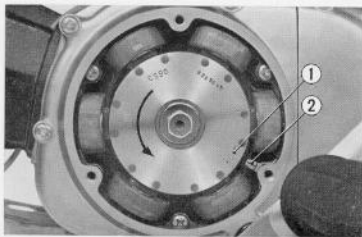
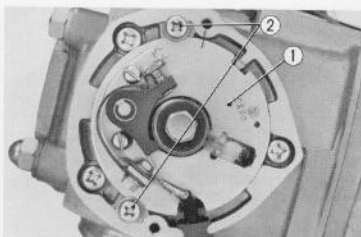

Fig. 5.6 Adjusting the ignition timing
Fig. 5.7 Adjusting the ignition timing
- b. With the dynamo cover removed, rotate the generator rotor counter-clockwise until the "F" mark ① on the flywheel lines up with the alignment mark ② on the stator. (Fig. 5.6) In this position, the breaker point should just commence to open. This can be checked with a thin thickness gauge. If adjustment is necessary, loosen the base plate screws ② and rotate the base plate ① by inserting a screwdriver into the adjusting slot to obtain the proper timing. (Fig. 5.7)